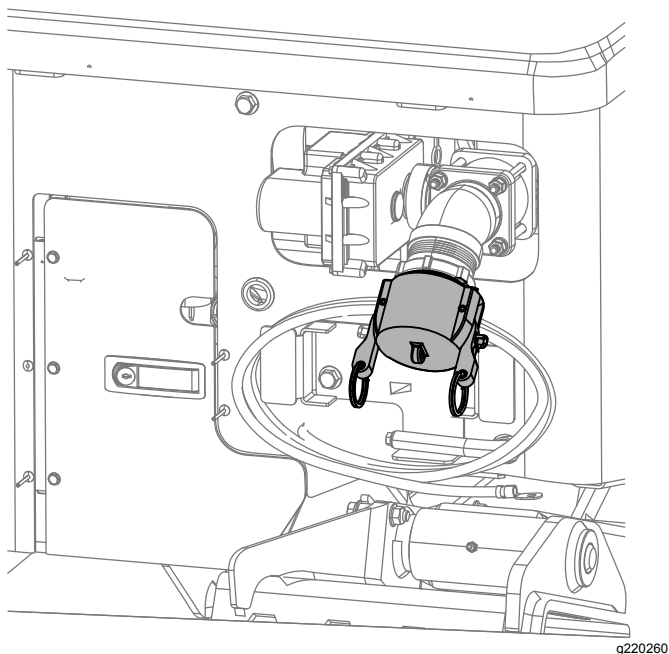

Figure 119
- C. Ensure that the cap is installed on the drilling-fluid pump inlet (Figure 119).